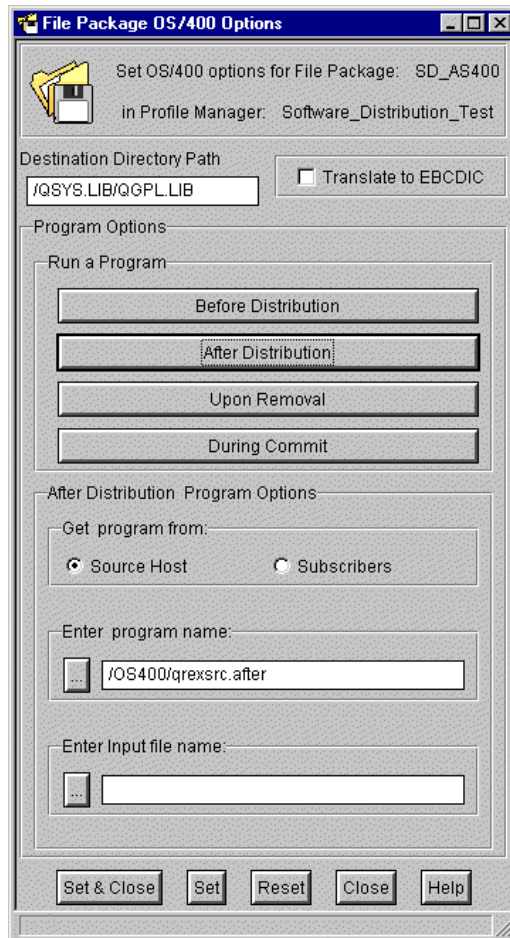

Figure 331. After Distribution program
10. Now, we need to specify our post-distribution program. As before, select the **Source Host** option in the Get Program from section. Next, click on the **After Distribution** button and enter /OS400_App/qrexsrc.after, which is the path to our REXX script on the TMR. See Figure 331 on page 500.